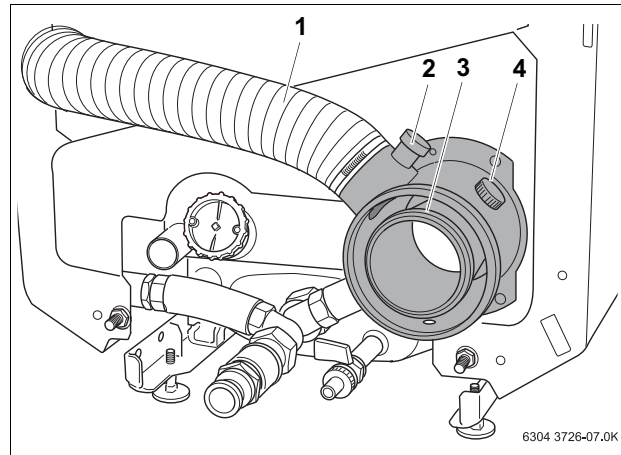

Fig. 11 Fitting the flue/air pipe socket
The readings must always be taken from the flue pipe (Fig. 11, **Item 3**) or the flue/air pipe socket (Fig. 11, **Item 2**).
- Insert the testing probe into the air supply socket testing point (Fig. 11, **Item 2**) and measure the air supply temperature.
- Insert the testing probe into the flue socket testing point (Fig. 11, **Item 4**) so as to reach into the center of the gas flow (center of the flue pipe – highest flue gas temperature) and measure the CO₂ content.